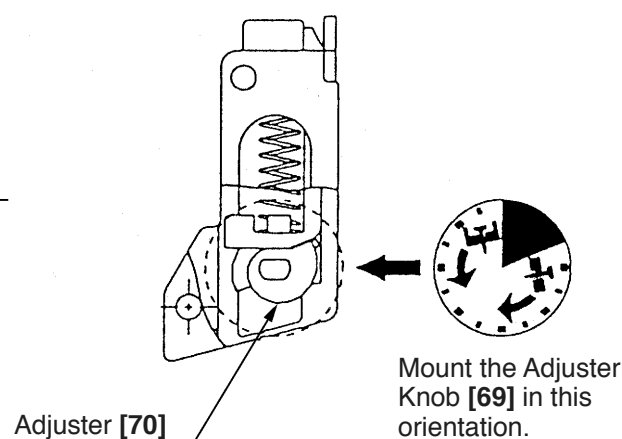

Fig. 25
- Mount the Adjuster [70] and the Adjuster Knob [69] as shown below (Fig. 25).
- Apply the provided oil (SHELL TONNA S32 Oil) to Pushing Lever (B) [30] and the Bolt Washer M4 [66] before reassembly.
- After reassembly, check that the Adjuster [70] and Pushing Lever (B) [30] operate smoothly.